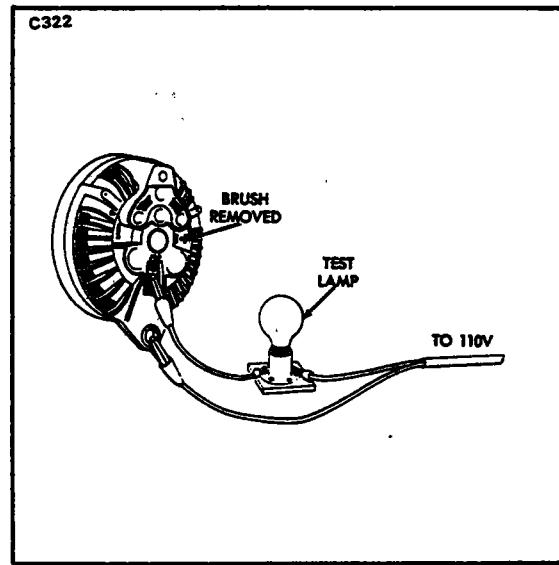

Figure 11-20... Testing Field Circuit
- a. Remove the ground brush and using a 110-volt test lamp, place one test probe to a machined surface at one of the alternator end shields. (Refer to Figure 11-20.) The test lamp should not light.